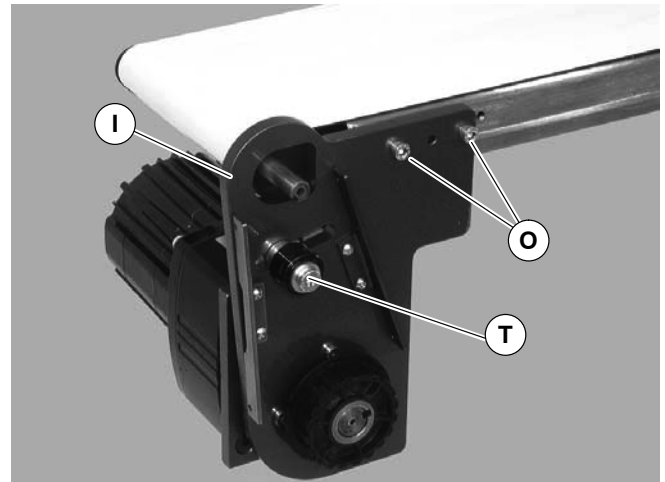
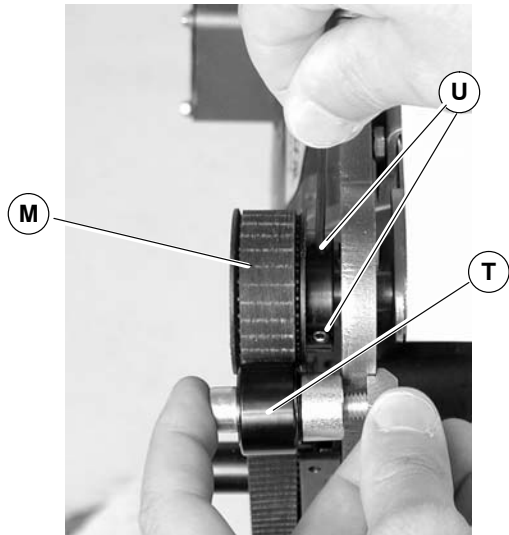

Figure 10
Figure 12
4. Attach mounting assembly (I of Figure 10) with screws (O). Tighten to 80 in-lb (9 Nm).
7. Remove cam bearing and spacer (T of Figure 10). Place the cam bearing and spacer (T of Figure 12) next to the driven pulley (M). Ensure the flanges of the driven pulley are aligned with the cam bearing. Tighten driven pulley set screws (U). This will allow for proper belt alignment while conveyor is in use. Replace cam bearing and spacer (T).